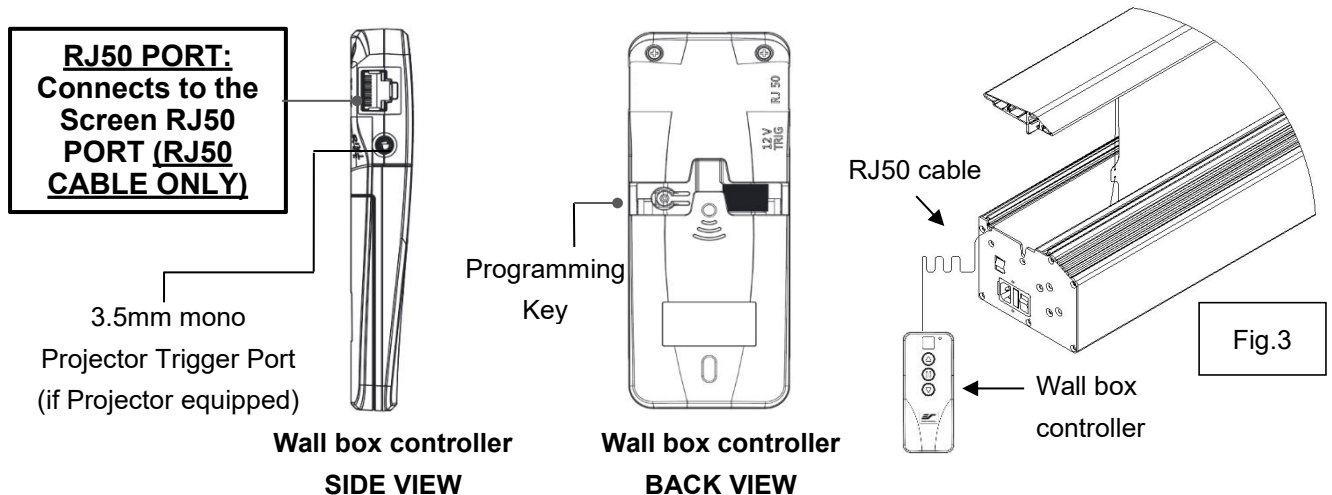

Fig.3
**3. Wall box controller (Item C, Fig.3):** The wall box controller switch is a wall mounted control box with an up/stop/down button. It plugs directly into the screen's RJ50 port by RJ50 cable (Item D).